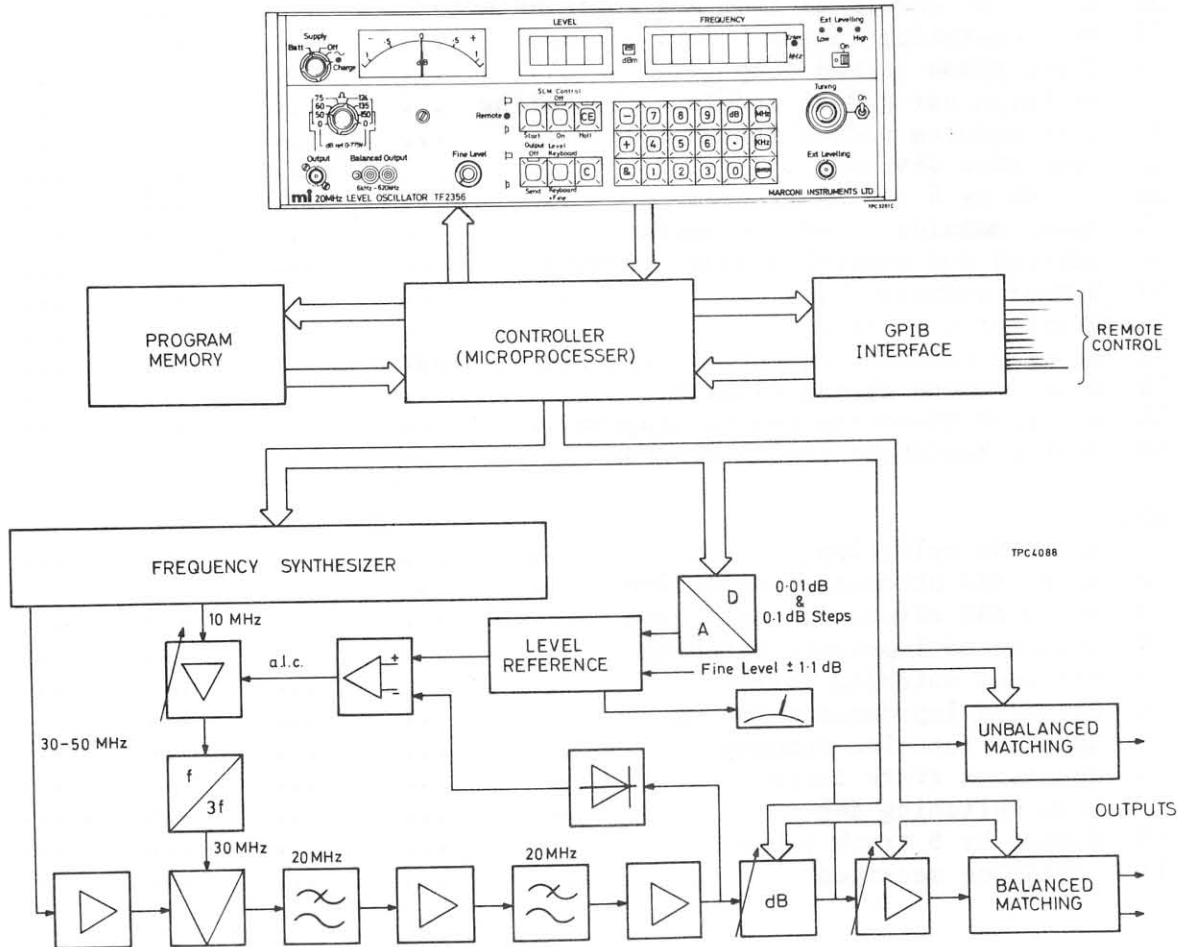

Fig. 1 Simplified block diagram
2. TF 2356 is, essentially, a beat frequency oscillator covering the frequency range 100 Hz to 20 MHz. A microprocessor is used to translate the front panel instructions into control signals to select output impedance and set frequency and to precisely control output level by means of programmable attenuators. The frequency synthesized local oscillator, which is phase locked to a 10 MHz temperature-compensated crystal oscillator, uses three phase locked loops to generate frequencies from 30 to 50 MHz in 5 Hz steps. Output level accuracy is controlled by an a.l.c. detector which is tailored to match the frequency response of the output attenuators. A simplified block diagram of the sender is shown in Fig. 1.